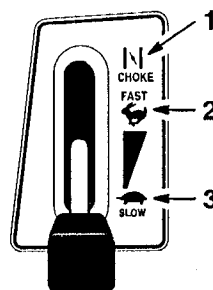

Figure 9
5. Move the throttle lever to “CHOKE” (Fig. 9).
7. After the engine starts, slowly move the throttle lever to “FAST” (Fig. 9). If the engine stalls or hesitates, move the throttle lever back to “CHOKE” for a few seconds. Then move the throttle lever to “FAST.” Repeat this as required.
1. Move the throttle lever to “SLOW” (Fig. 9).